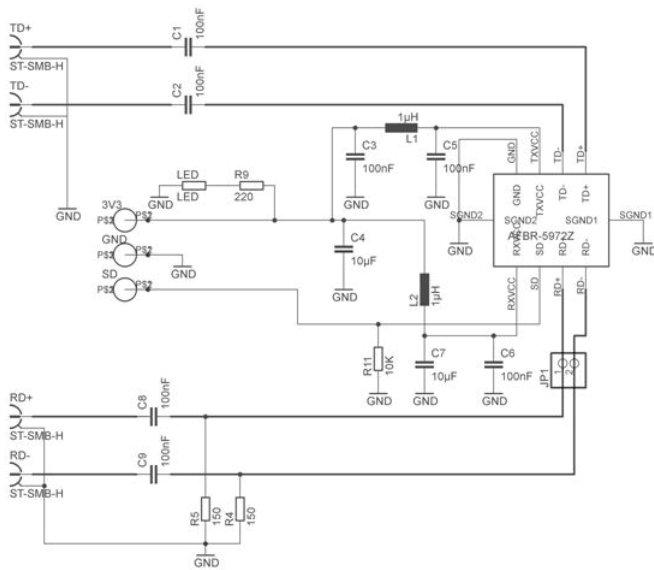

Figure 2. Schematic of the AFBR-0544Z evaluation board
The evaluation board schematic is shown in Figure 2. The transmitter is AC coupled and LVDS compatible as well as LVPECL compatible (Circuit diagram shown in application note - AN 5523), and the receiver is AC coupled and LVPECL compatible as well as LVPECL compatible (Circuit diagram shown in application note). The signal detect (SD) pin is LVPECL compatible. The thick PCB trace between the SMA connector and the input/output pins of AFBR-5972Z represents a 50 Ω transmission line. The top- and bottom-sides of the evaluation PCB are shown in Figure 3(a) and 3(b) respectively.
The AFBR-0544Z evaluation board electrical schematic is shown in Figure 2, and the bill of materials (BOM) is given in Table 2.